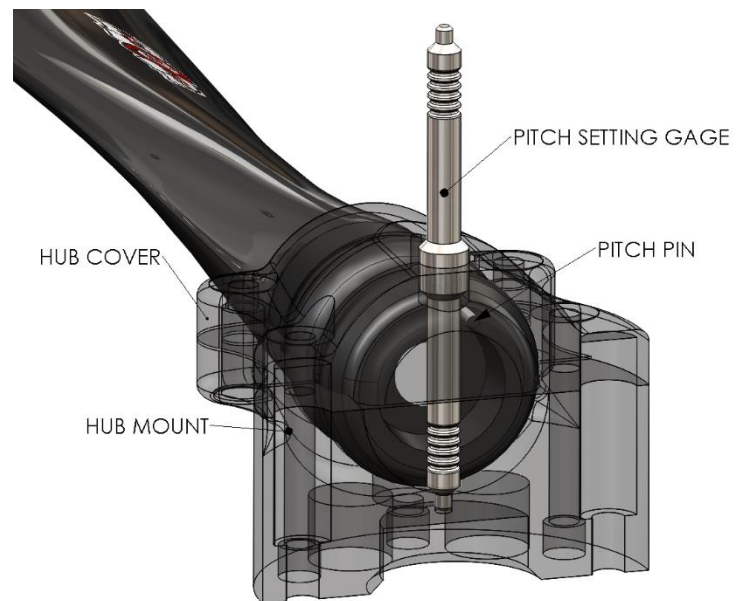

FIGURE 3. PITCH SETTING GAGE DETAIL
8. Insert the pitch setting gauge through the clearance hole in the hub cover half and into the receiving hole in the hub mount half. See **Figure 3**. Be sure to use the nominal setting of 4 to start. The pitch setting # indicates relative pitch; pitch 5 is higher pitch than pitch setting 4, etc...
4. Insert the desired pitch setting gauge thru the clearance hole in the hub cover half and into receiving hole in the hub mount half. See **Figure 3.**